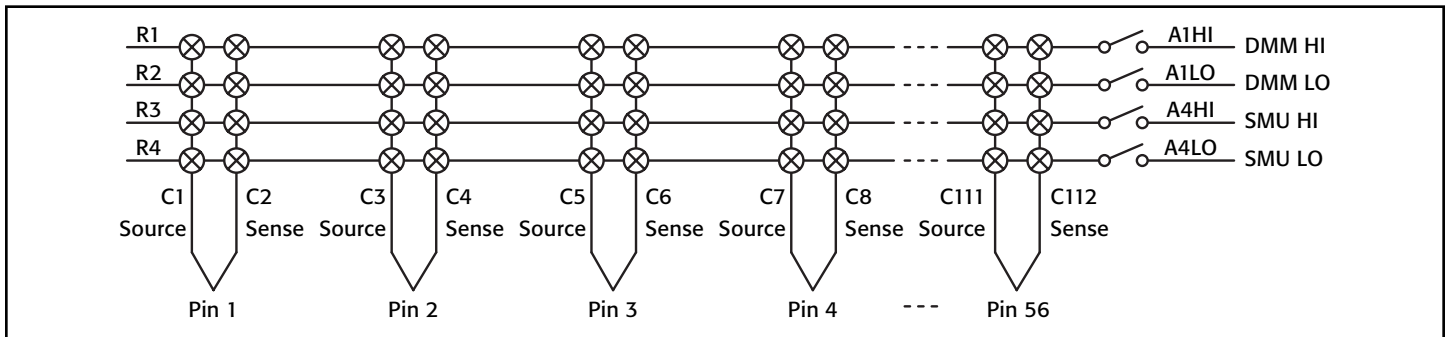

Figure 6. Column to pin mappings
**Figure 6** shows these connections in detail. Note that when scaling this system up, this pattern should be maintained throughout the system, across cards and mainframes.
For simplicity of test setup, the DUT will be a two-foot length of standard computer ribbon cable rather than an actual pin socket. This provides a low resistance DUT without requiring a pin prober as the cable can easily be wired directly into the Model 3732-ST-C Screw Terminal Block. Based on the column to pin mappings shown in *Figure 6*, the 4x112 configuration can provide 56 test pins. Each wire in the cable requires two pins to test, one at either end of the wire, thus with a single Model 3732 we can test up to 28 wires in the cable. For this test, one end of the cable will be connected to pins 1 through 28 and the other end to pins 29 through 56. With the DUT wired this way, a clear pattern will appear in the collected data, demonstrating the flexibility the test system provides.